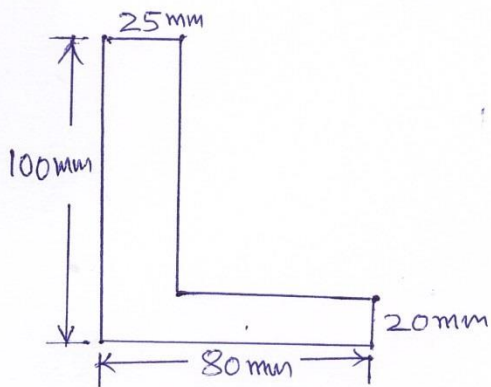

fig. 3
- (d) Find moment of inertia for the angle section shown in fig.3 about x-x axis. **04**